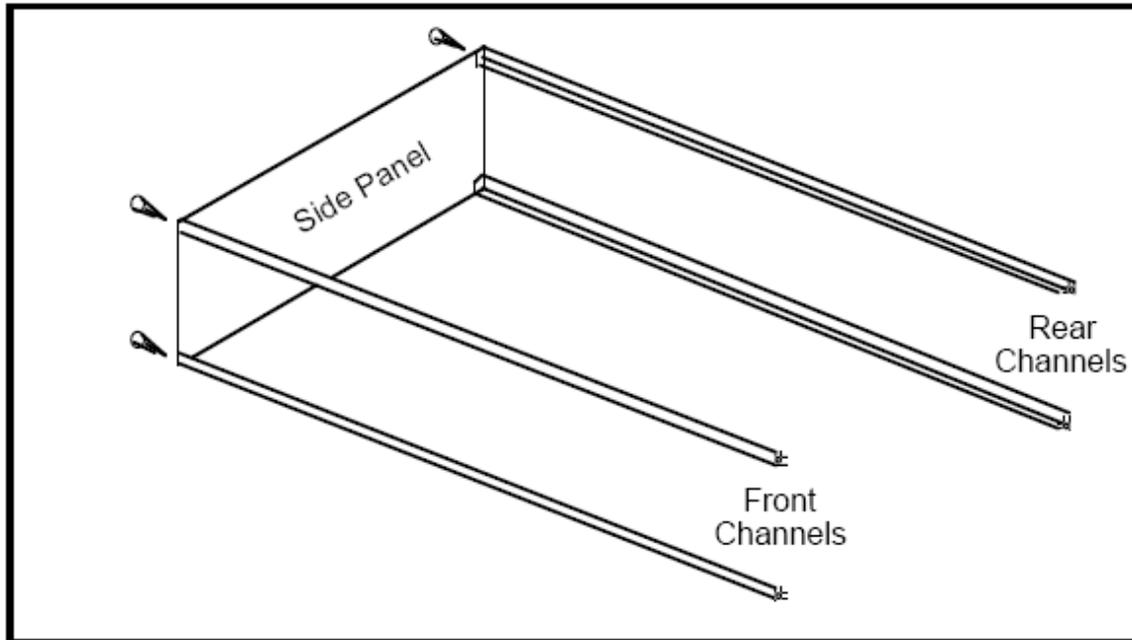

Figure 12. Partial assembly of the enclosure.
1.  Partially assemble the enclosure using one end panel, the four extruded channel pieces, and four screws. Tighten screws just enough to maintain shape. See Figure 12.